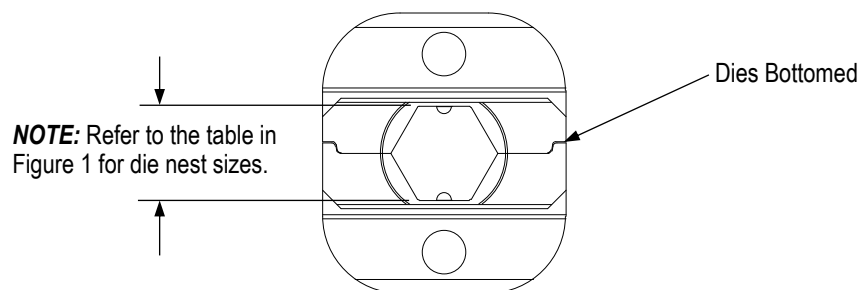

Figure 4
The die assembly will perform correctly as long as: (1) the product specified is correct for the application, (2) the specific die assembly is used, (3) the die assembly has been measured to ensure that the opening is correct, and (4) the tool has been adjusted correctly. Refer to Figure 4 for die nest information.